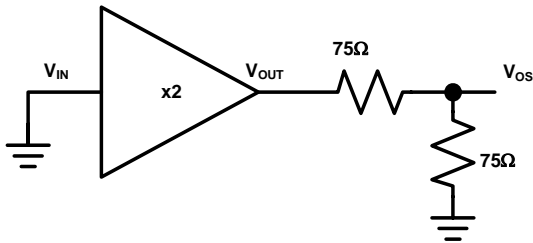

FIGURE 1. V_{OS} MEASUREMENT CONDITIONS
- Offset measurements are referred to 75Ω load as shown in Figure 1.